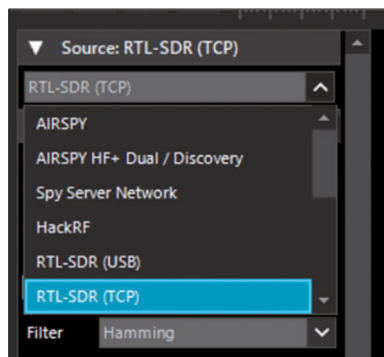

Figure 11.5: Select RTL-SDR (TCP).
- Select **RTL-SDR (TCP)** under menu **Source** on your **SDR display**(Figure 11.5))